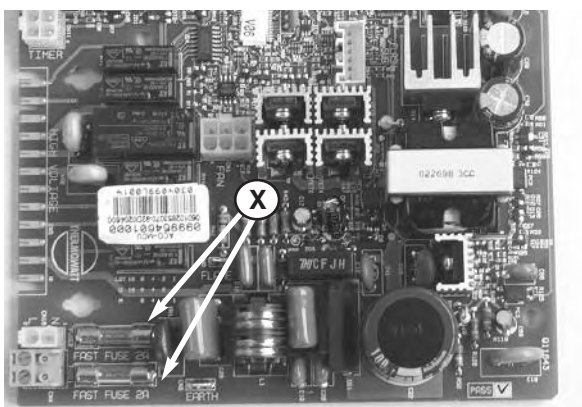

Fig. 105
2. Remove the fuses "**X**" (see Fig. 105)